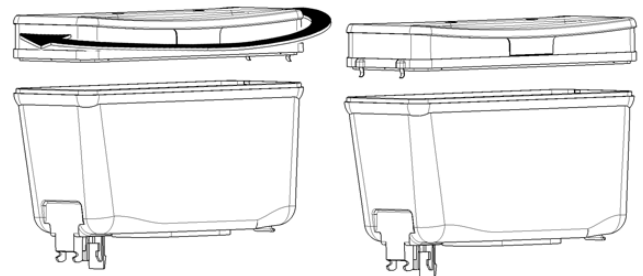

figure 2
- 1 On machine equipped with lighted top cover turn the cover for 180 degrees to switch light off. (see figure 2)